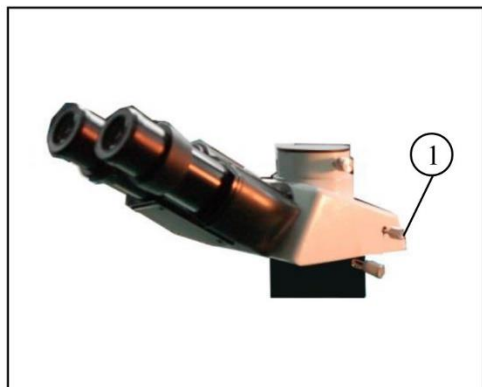

Figure 1
4.1.1. Selecting the light path (Figure 1)